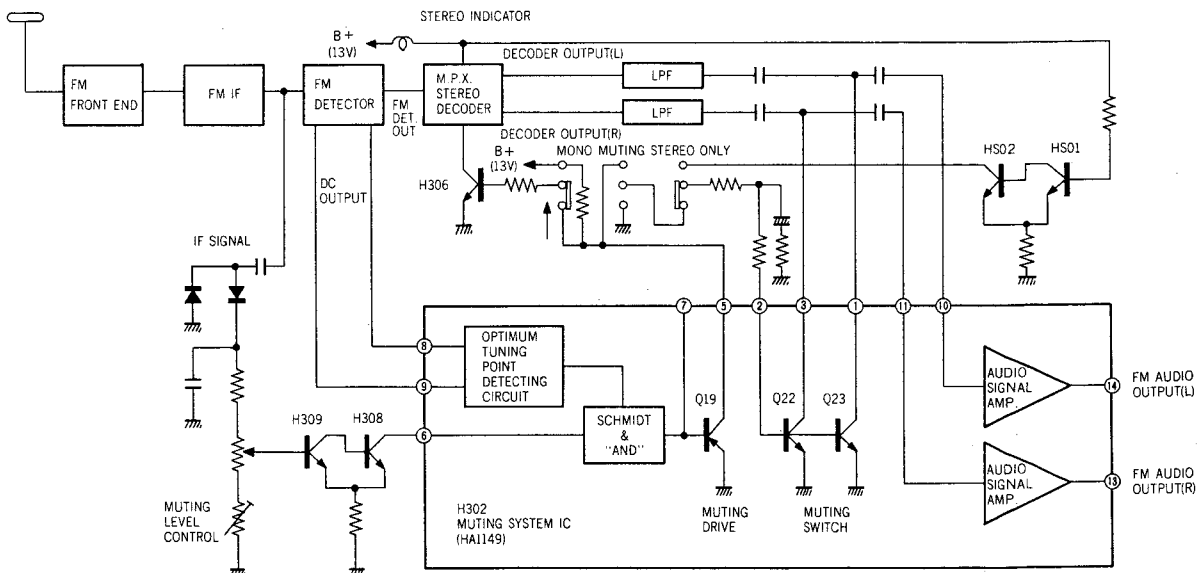

Figure 2. Block Diagram of the Muting System
The first input is a DC voltage obtained by rectifying a part of the IF signal output, and is fed through the trigger voltage shaping circuit of H308 and H309 and R340 to the muting system IC (H302) pin ⑥. Pin ⑥ is connected to the base of the muting drive transistor Q19 through the Schmidt trigger and AND circuit within the IC(H302) (see Fig. 2).
The Model 150 provides a capability of selecting and receiving FM stereo broadcast signals only. This function is given by depressing the STEREO ONLY pushswitch. With the pushswitch depressed, the bases (pin ②) of the muting switching transistors Q23 and Q22 are connected through the trigger amplifier of HS02 and HS01 to the MPX stereo decoding IC (H301) stereo indicator lamp drive pin ⑥ (see Fig. 2).